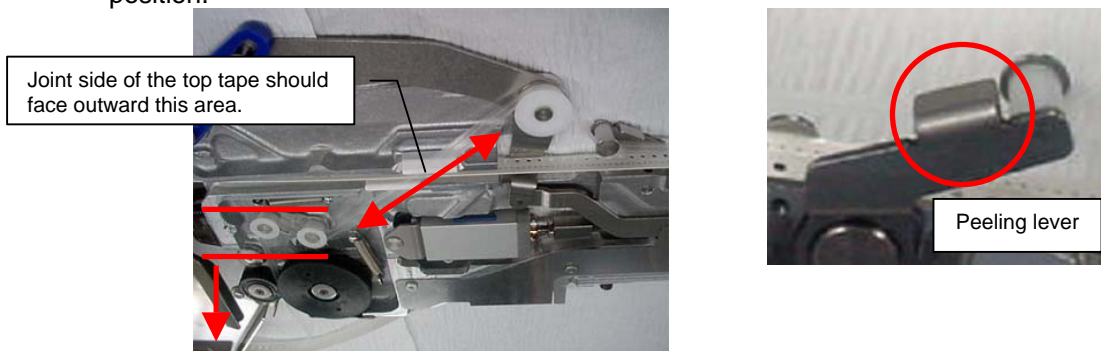

Fig 4
5. Pull down the top tape until the two rollers become level.(Fig 4 Left)
6. Push the bending part of the peeling lever(Fig 4 Right) to feed the component to the pickup position.